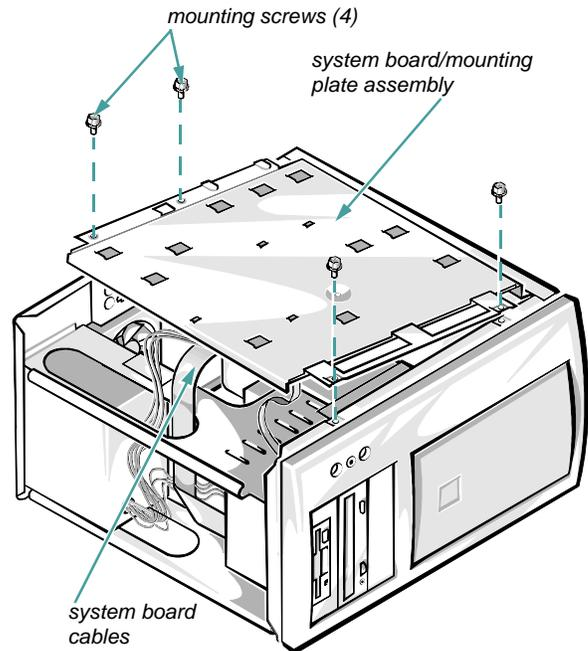

Figure 6-5. Removing the System Board Assembly
4. **Lay the computer on its left side; then remove the four screws from the mounting plate (Figure 6-5).**